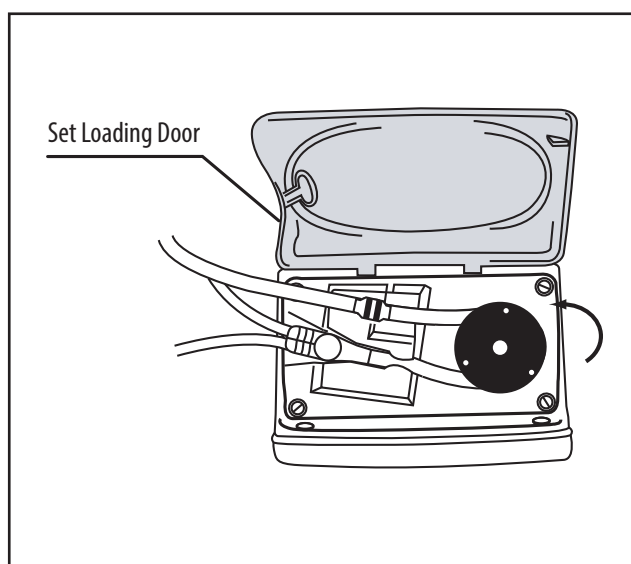

Figure 6B.
3. Grasp the MISTIC retainer end (black ring retainer) and wrap the tubing counterclockwise around the rotor. **Avoid overstretching the silicone tubing. (Figure 6B).**
4. Carefully pull the MISTIC retainer end left and upwards to position it over the slot on the left, and then lower the retainer into the slot. Push down on the retainer then release to ensure proper engagement. (Figure 6B)